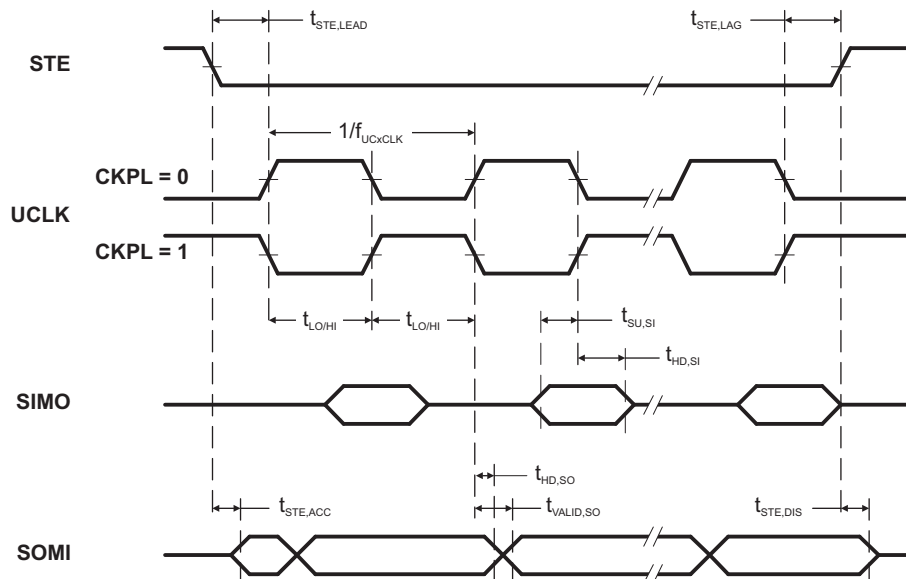
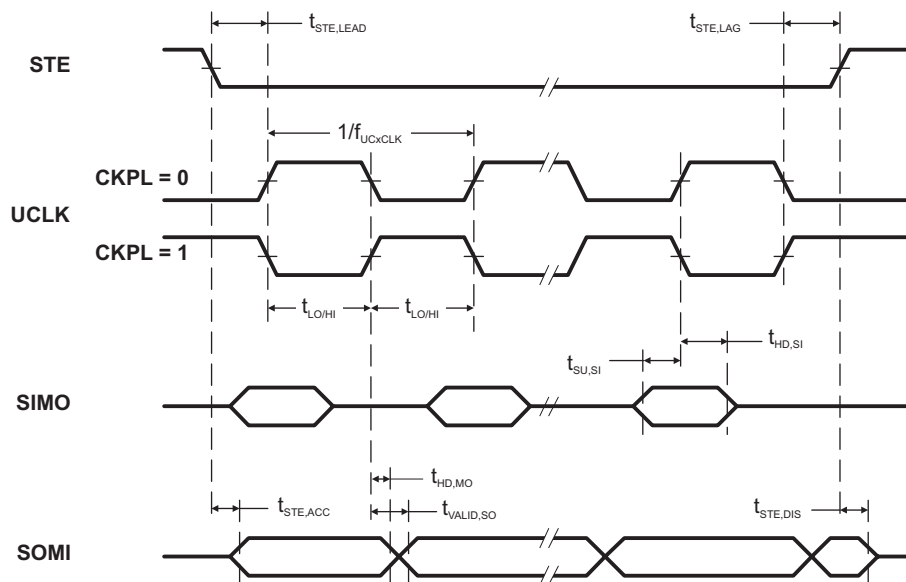

Figure 5-13. SPI Slave Mode, CKPH = 0
Figure 5-14. SPI Slave Mode, CKPH = 1
(see Figure 5-13 and Figure 5-14)
(2) Specifies the time to drive the next valid data to the SOMI output after the output changing UCLK clock edge. See the timing diagrams in Figure 5-13 and Figure 5-14.
(3) Specifies how long data on the SOMI output is valid after the output changing UCLK clock edge. See the timing diagrams in Figure 5-13 and Figure 5-14.